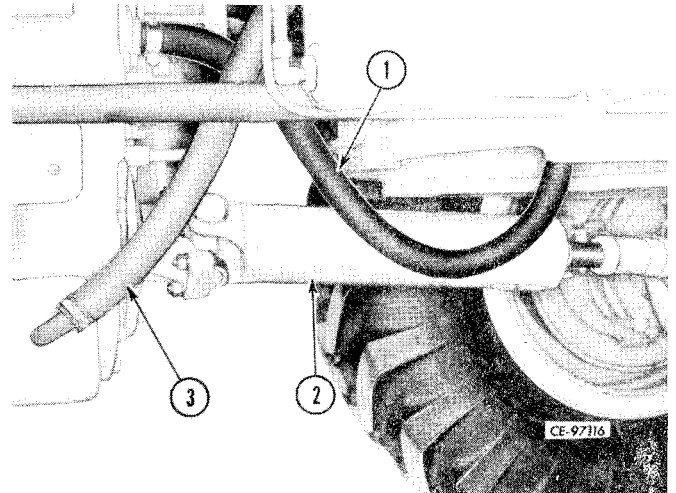

Figure 4-100
Connect strainer-to-pump hose (3, Fig. 4-100) to transmission. Connect overflow to transmission hose (1). Install lower rear drive shaft (2).